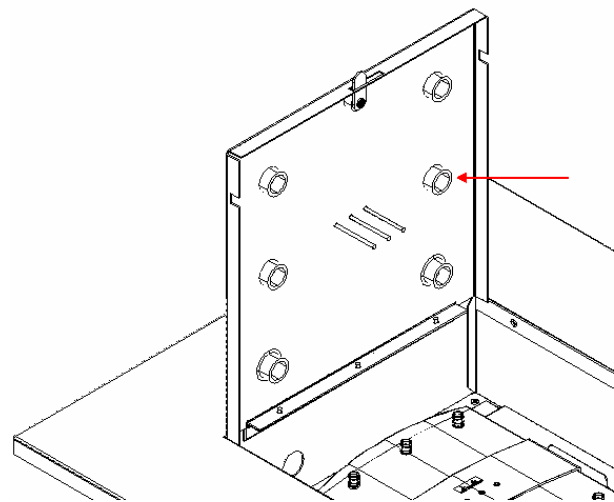

Figure 2 - Installation of Antennas.
Step 2 – Remove the hole covers in the door by depressing the tabs on the inside of the covers (ref Figure 2). The antennas should be installed by placing the cable through the antenna openings in the enclosure cover from the outside of the box. After the cables have been pulled through the door, connect the antennas to the access point.